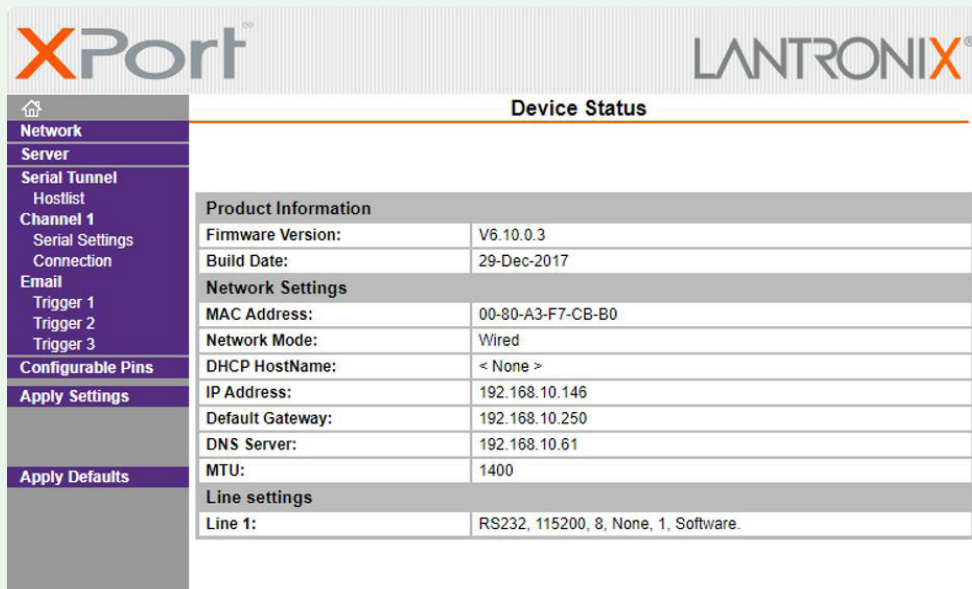

Figure 2 Lantronix Main Page
4. As shown in Figure 2, you will be directed to the main web interface of the NV 200/D NET.